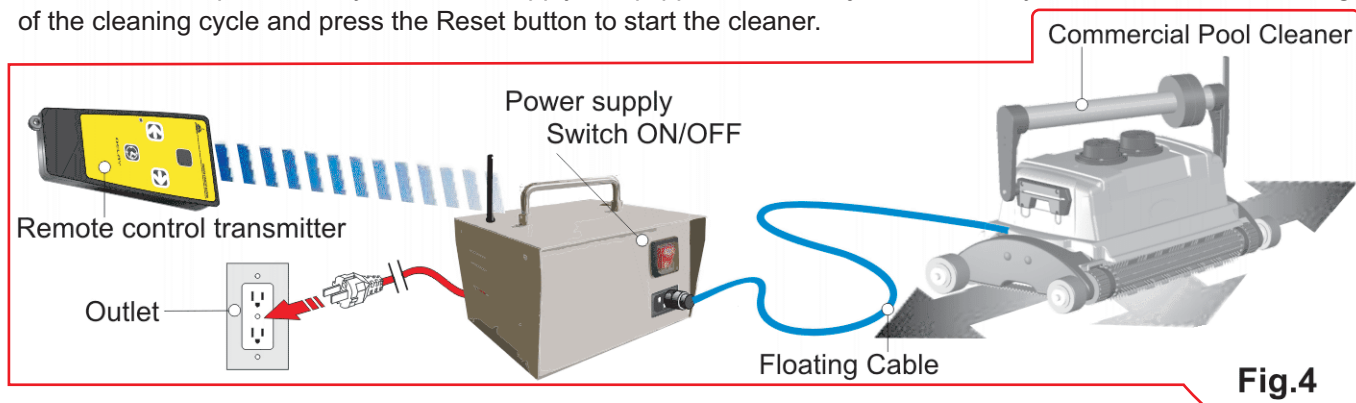

Fig.4
(4) After the Drive Tracks and Bushings are replaced, reassemble the Side Plate as shown here. (FIG 4)